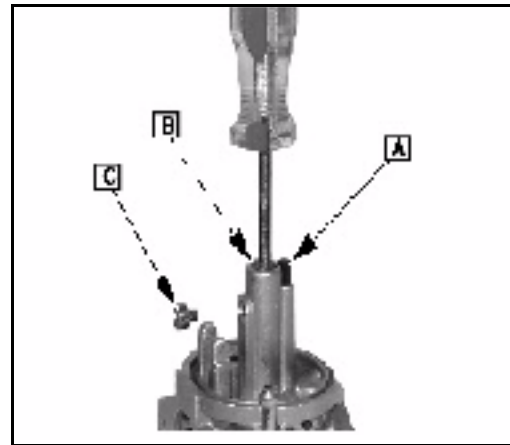

Fig. 119
7. Insert tapered end of rubber plug (A) in passage.
8. Install emulsion tube (B).
9. Install main jet ([C] Fig. 119).
12. Place new float bowl gasket (A) in carburetor body groove, Fig. 119.